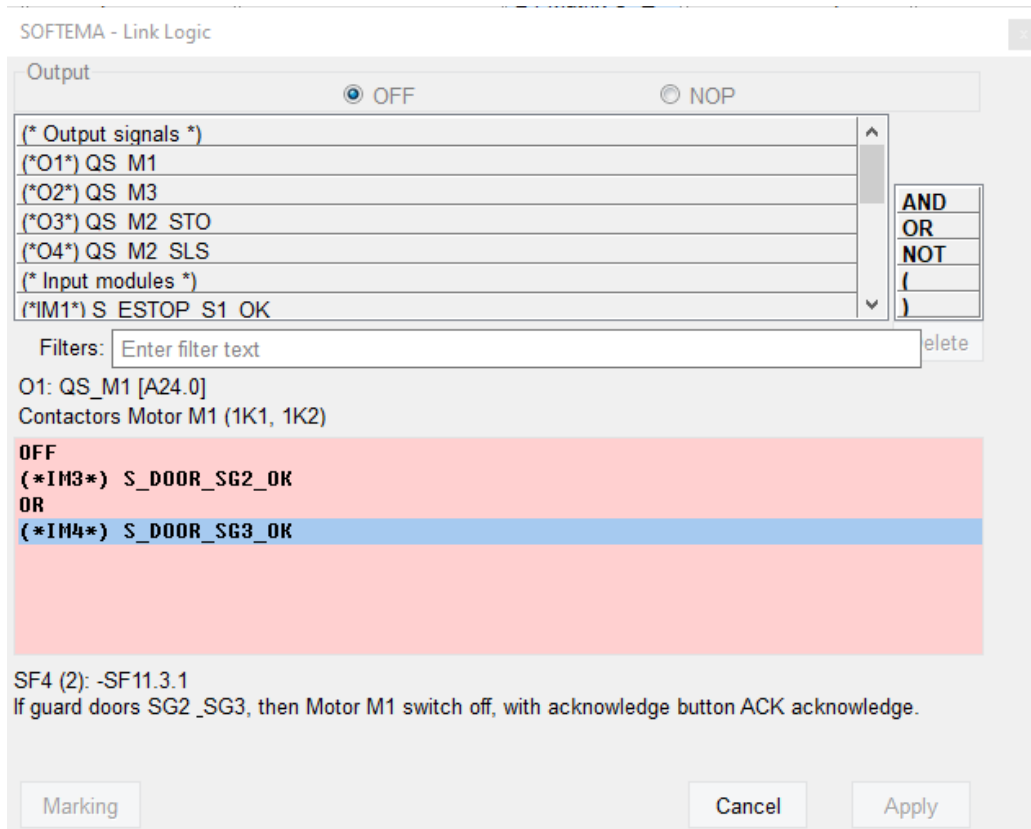

Figure 48: The logic editor
The logic editor (Figure 48) is called up by double-clicking with the left mouse button on a logic cell in the "B4 Matrix C+E" table. When you exit the editor, the switching conditions are entered in the logic cell that has just been edited. If the row of the safety function/test case under consideration is locked, none of the changes can be made in the editor.
- Below this is a list of the signals Ix, O_x from the "A2.4 IO list" table and the modules IM_x, OM_x from the "B3 Modular architecture" table. Double-click on a list element to add it to the logic link below the selected row (in Figure 48 shown in blue). List elements already used in the logic are marked with an asterisk in the list, but can be inserted again. The selection and design of the list elements can be changed via options (Section 9.1) can be customized.
- Below this is the editing area of the logic link: The first row contains the switching command, below this the conditions that lead to switching according to the IFA matrix method. In the Figure 48 the condition means: If the fast-moving gate SG2 and the